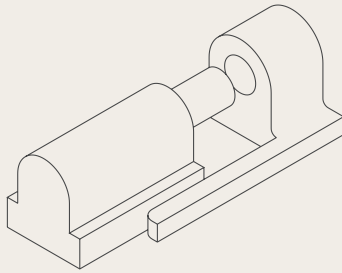
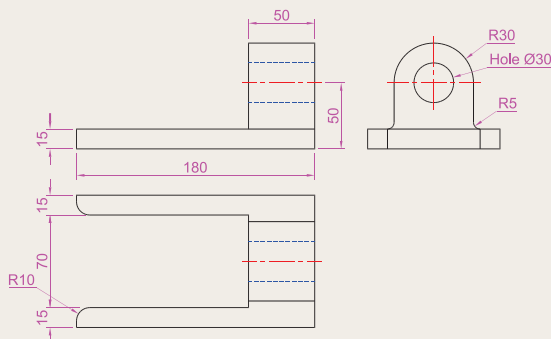

Fig. 7.23 Exercises 1, 2 and 3 – an isometric drawing of the three parts of the slider on which these exercises are based
Fig. 7.24 Exercise 1
Figure 7.23 is an isometric drawing of a slider fitment on which the three exercises **1**, **2** and **3** are based
- Figure 7.24 shows a first angle orthographic projection of part of the fitment shown in the isometric drawing in Fig. 7.23. Construct a three-view third angle orthographic projection of the part.